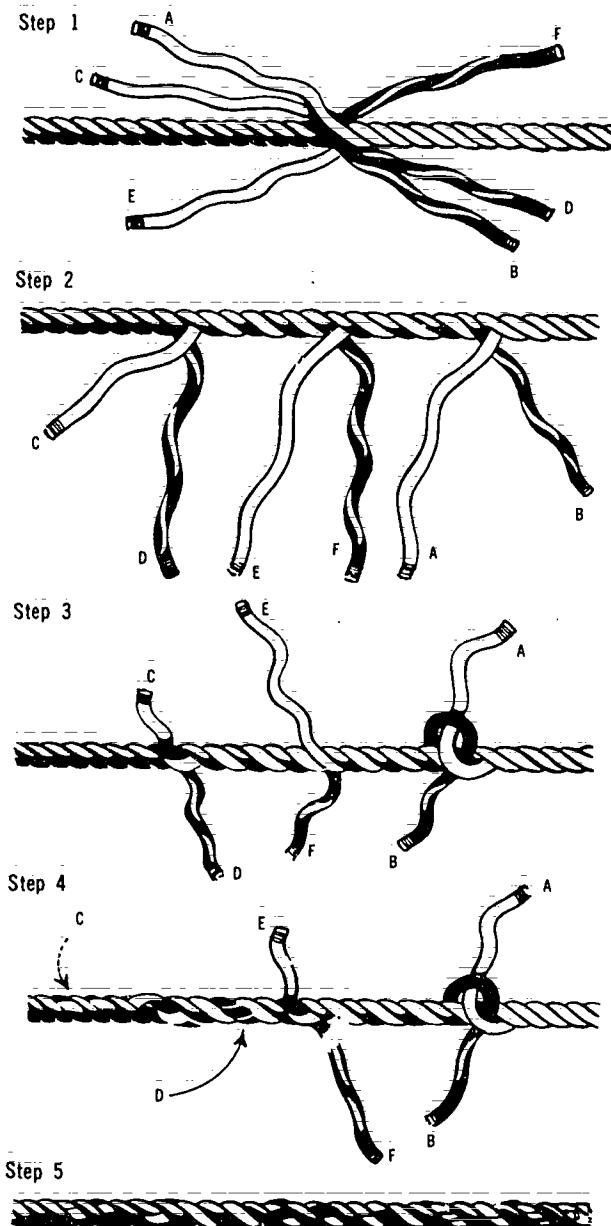

Figure 7-33. Making a Long Splice
- Step 1.** To make this splice, begin by unlaying one strand of each rope for 10 or 15 turns, and whip the ends of each strand to prevent untwisting. Then lock the two ropes together by alternating the strands from each end as illustrated in Figure 7-33, Step 1.
- Step 2.** Starting at one end, take an opposite pair of strands, A and B, and unlay Strand A. Follow it with Strand B, turn by turn, continuing until only 1' or less of Strand B remains. Keep Strand B tight during this step and pull it down firmly into Strand A's former place. Repeat this operation with Strands C and D. Strand D is unlaid and Strand C is laid in its place. The splice at this stage is illustrated in Figure 7-33, Step 2.
- Step 3.** Now each pair of strands is tied loosely together with a simple overhand knot, as indicated by Strands A and B in Figure 7-33, Step 3. Each knot is then pulled down into the rope like Strands C and D.
- Step 4.** Each strand is now tucked twice, over and under, as done in making the Short Splice. Figure 7-33, Step 4 shows Strands C and D after tucking. If a smaller diameter splice is desired, tapering can be done by tucking each strand twice more, cutting away some of the threads for each additional tuck.
- Step 5.** When tucking is finished, cut all strands off close to the rope and roll the splice on the floor under your foot to smooth it out. The completed Long Splice is illustrated in Figure 7-33, Step 5.